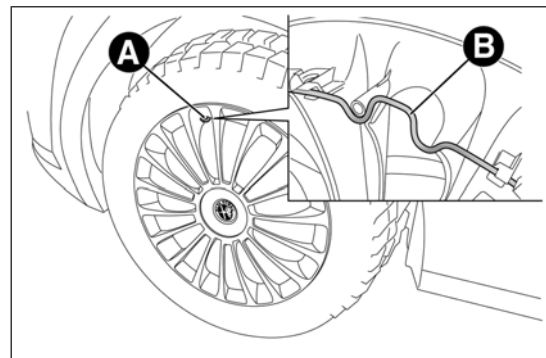

fig. 115
- ☐ **for versions with steel rims:** insert the screwdriver in the opening A fig. 115 in order to trigger the hub cap retaining clip B;